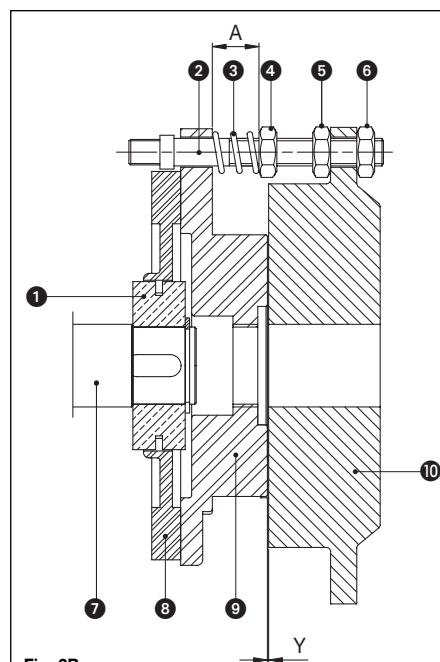

Fig. 2B
2.2 Construction method for the brake motor sizes 71÷160 (Fig. 2B)